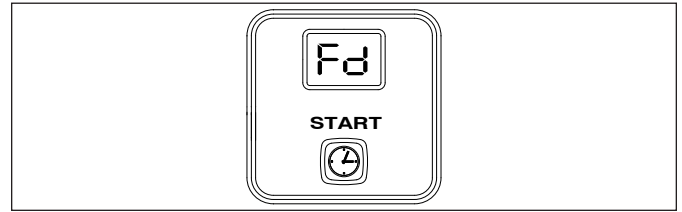

Figure 12. LED Display for Flush Duration
2. When Fd is displayed (Figure 12), press and release the Start button to view the current setting